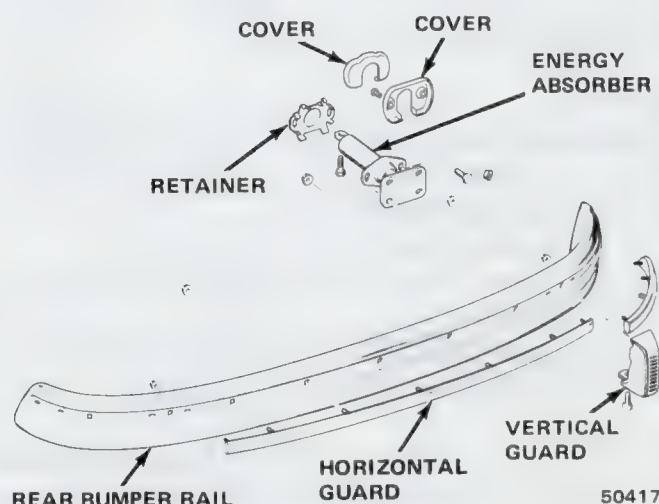

Fig. 3F-13 Rear Bumper Components—Pacer
- (1) Remove absorber covers (fig. 3F-13).
- (2) Support one end of bumper and remove bumper nuts at supported end.
- (3) Remove bumper nuts on opposite end and remove bumper horizontally.